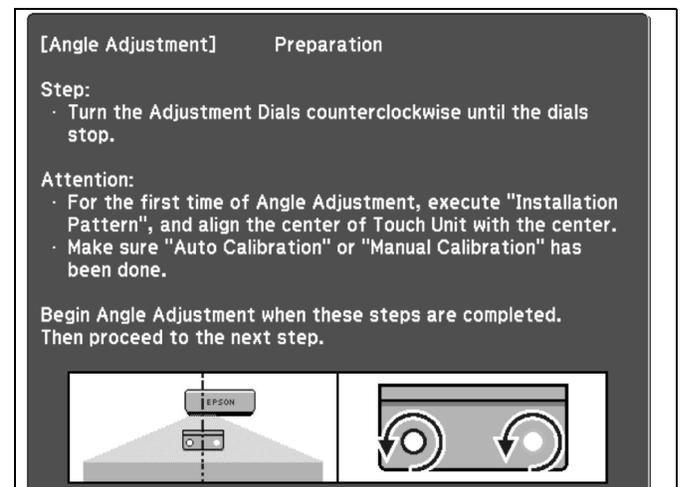

Figure 37
6. The **Angle Adjustment** screen is displayed. (See Figure 37)